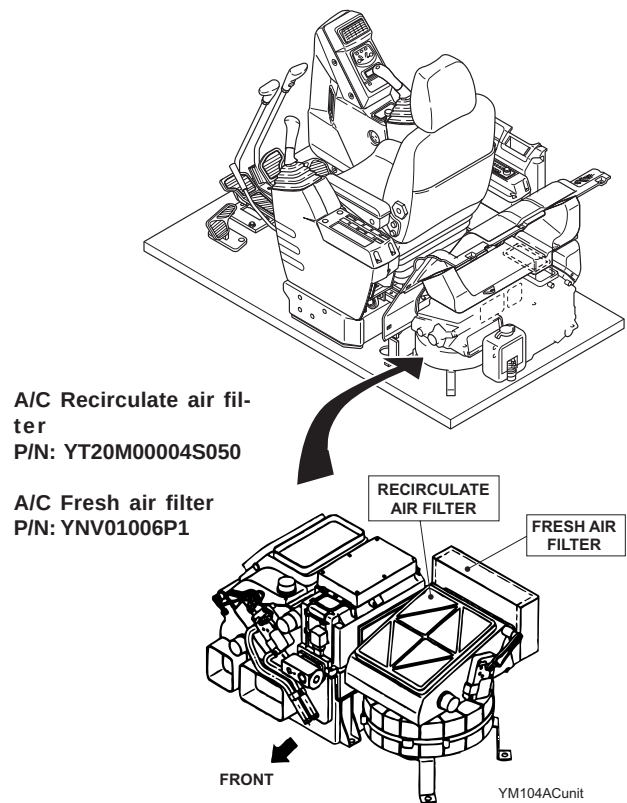

FIGURE 4.39C
- Raise recirculate air filter slightly and pull it out for inspection and cleaning, or replacement. See Figure 4.39C.